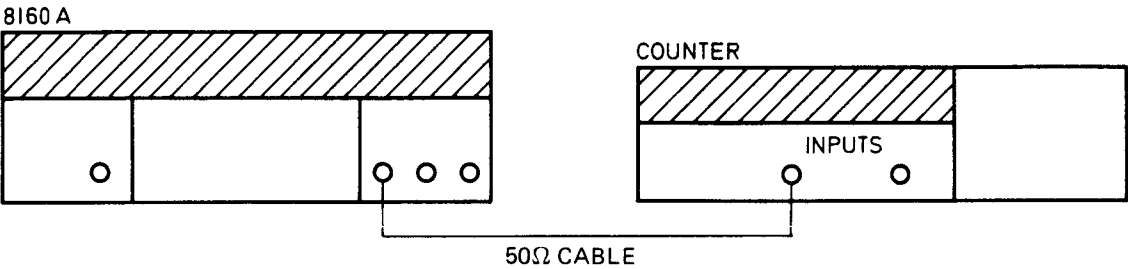

Figure 4-1. Frequency Test Set-up.
- 1. Connect equipment as shown in fig. 4-1.